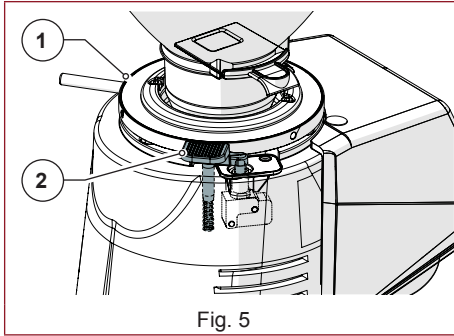

Fig. 5
- **Safety adjustment disk lock lever (Fig. 5):** To prevent any accidental rotation of the grinding adjustment disk (Part 1), there is an adjustment disk lock lever (Part 2) which must be pressed to allow rotation.